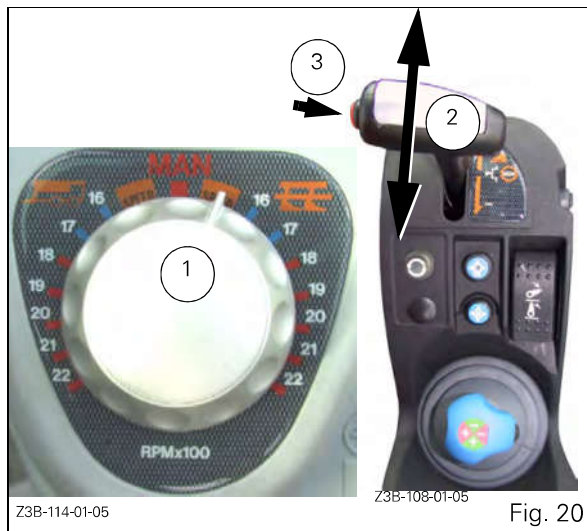

Fig. 20
1. Press the range shift button ref.3, Fig. 20.
2. Holding the button down, move the control lever ref.2 or the PowerShuttle lever (+ to increase the range or - to decrease)